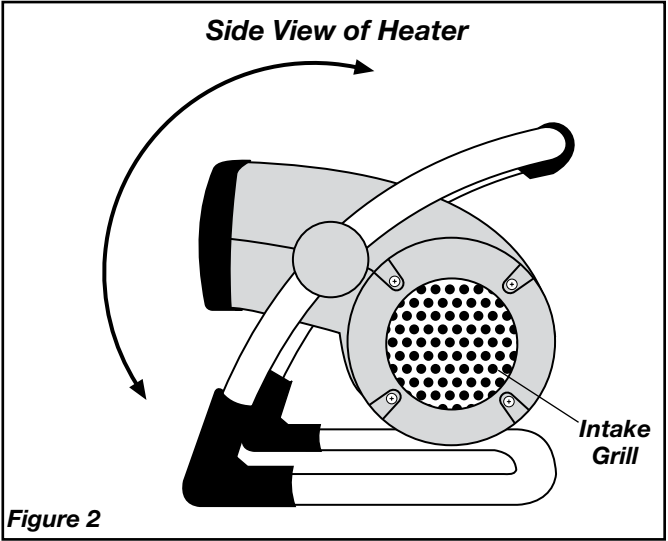

Figure 2
7. Move the **Power Knob** to the desired heat setting. High Heat (1500W) is represented by the (2) and Low Heat by the (1).
9. To adjust the angle of the Heater air flow, rotate the Heater body forward or backward to the desired position. (Figure 2)
11. To disconnect Heater, turn **Power Knob** to the “OFF” position (0), then remove plug from outlet.